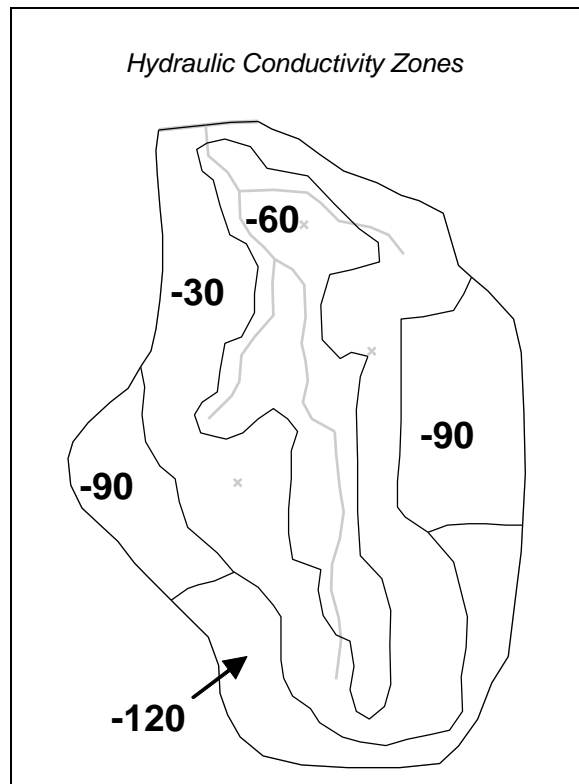

Figure 1 Hydraulic conductivity zones and parameter key values
First, the user will set up the hydraulic conductivity zones. The hydraulic conductivity polygons are shown in Figure 1. The five polygons will be used to define five parameter zones. The key values associated with each of the five zones are shown on the polygons in the figure.
4. Double-click on each of the polygons shown in Figure 1 to open the *Attribute Table* dialog.